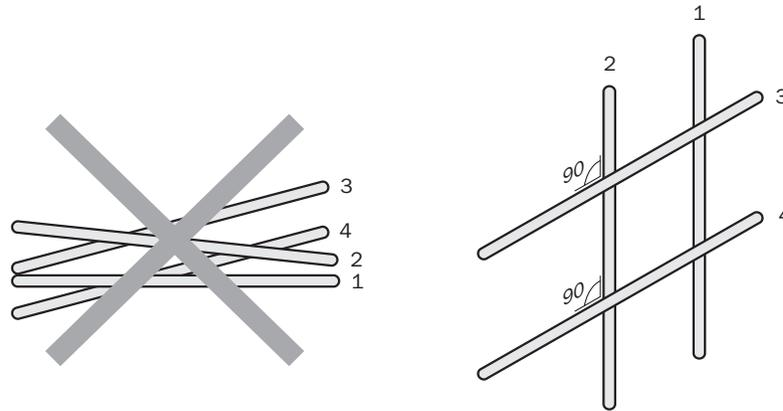

Figure 2: Cross cables at right angles
- ▷ Cables in groups 1, 2 and 3, 4 must be crossed at right angles see figure 2